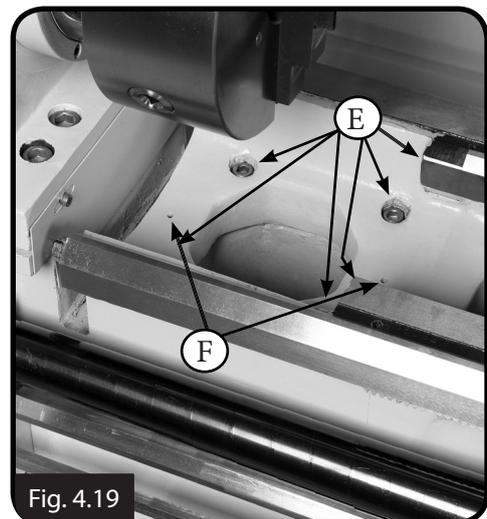

Fig. 4.19
1. Remove the four cap screws from the bottom of the gap and two from the ends of the ways ("E" in Fig. 4.19).
2. Remove the set screw plug, and assemble an M6 x 30 cap screw, 6mm flat washer, and the gap pin puller hub ("F" in Fig. 4.19)